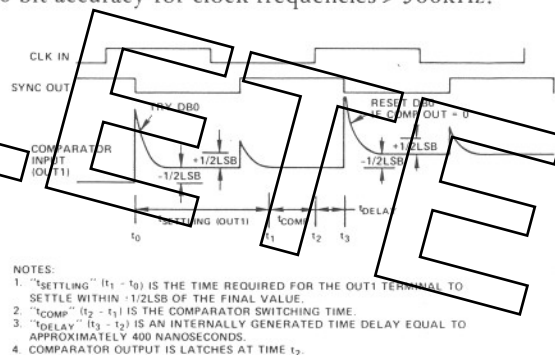

Figure 8. Expanded Timing Diagram
For 10-bit accuracy, the first MSB must settle to within 0.1% of final value; the second MSB to within 0.2%. The LSB settling requirement is only 50% of the LSB value. Figure 8 illustrates the settling time available during a given clock period. The pulse shown on the OUT1 terminal falling midway between t_0 and t_3 is a feedthrough from internal clock mechanisms and is due primarily to bonding wire and header capacitance. Two methods may be used to reduce the OUT1 settling time:
1. Load OUT1 with a 1k resistor. This reduces the time constant by a factor of 10. Further reduction of the 1k Ω load reduces the amount of comparator overdrive, thus increasing the comparator propagation delay, resulting in a reduction of available settling time ($t_1 - t_0$ on Figure 8).